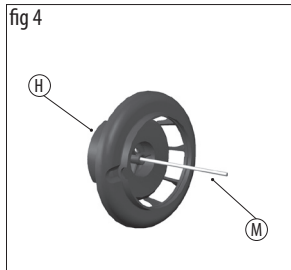

fig 5
- Position the motor support (I) on the motor (O) as shown in –fig.5